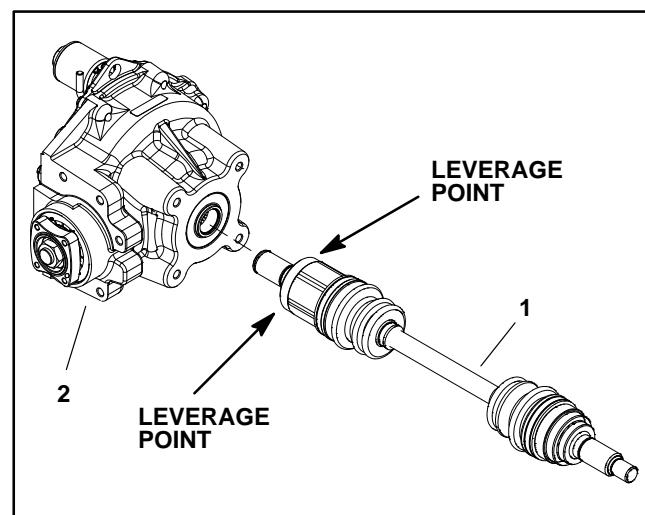

Figure 47
- Use two small pry bars (180° apart) to carefully leverage the CV axle out of the differential. Use even pressure on both pry bars (Fig. 47).